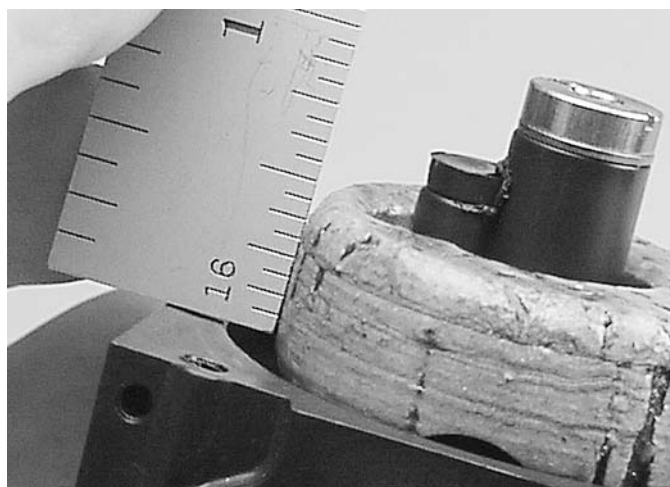

Fig. 50
- Adjust float by bending the hinge so height is **1/2 in. (12.7mm)** from bowl flange (without gasket) to top of float (Figure 50).